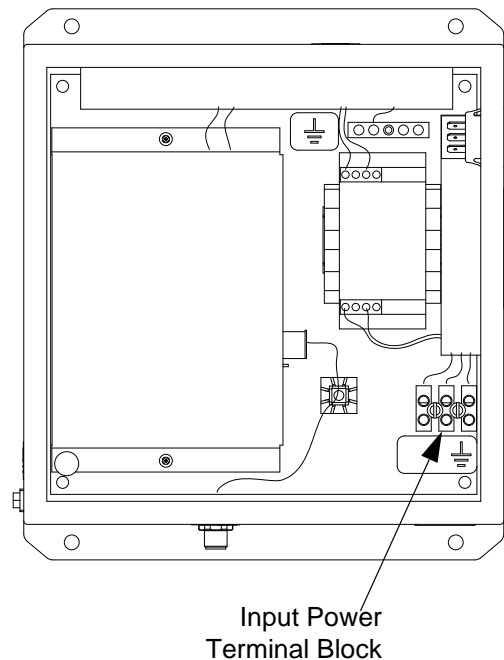

FIG. 9. Main Power Connection
2. See FIG. 9 and the **System Electrical Schematic** on page 36 for the L1, N, and ground wiring connections inside the Power Supply Module.